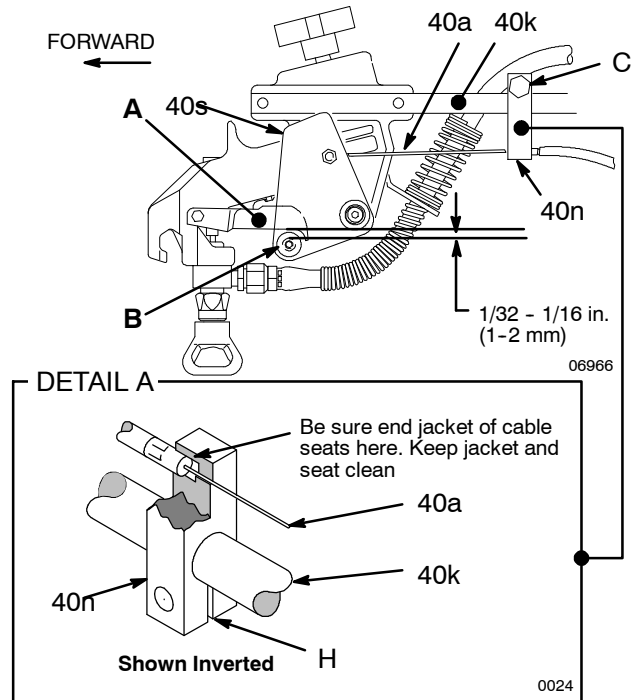

Fig. 6
To reduce the risk of an injection injury due to remotely triggering the gun by accident, always disengage the trigger cable from the block before handling the gun. See Fig. 6, DETAIL A, . **The gun will trigger briefly when releasing the cable!** Before you remove the gun from the holder, engage the gun trigger safety latch.
1. To disengage the cable, grasp the cable (40a) just behind the block (40n). Pull the cable back about 1/2 inch (13 mm) and then up and out of the block. **The gun will trigger briefly!** See Fig. 6.
2. To engage the cable, slide the cable (1) into the block (48), making sure the end of the cable jacket seats firmly in the seat of the block. **The gun will trigger briefly!** See Fig. 6.
## Trigger Cable Tension Adjustment See Fig. 6
Do not allow the cable (40a) to rub against the outside edges of the slot (H) in the block (40n), to prevent premature wear of the cable. Rotate the block slightly to eliminate rubbing. See Fig. 6, DETAIL A.